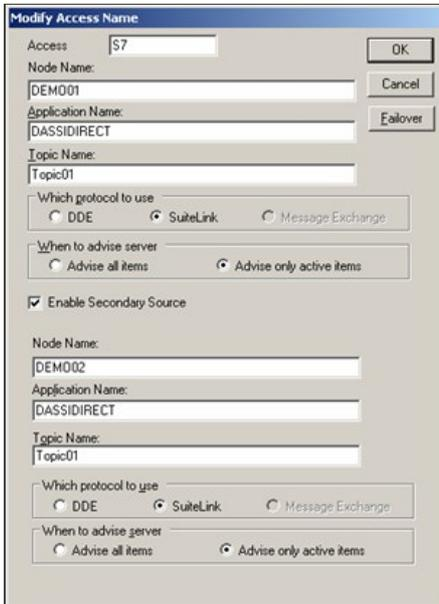

Figure 9: Access Name with Secondary Source
1. Configure the Access Names on the Secondary Server as shown in Figure 9 (below).